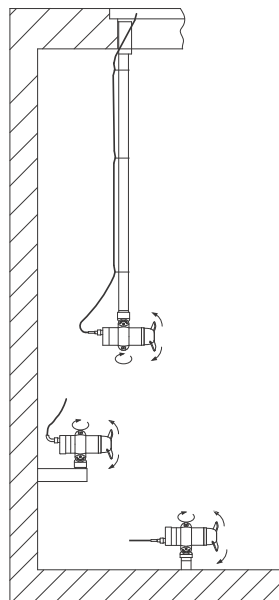

Fig. 3 Suspended mounting, wall mounting and bottom mounting
- mounting bracket and tube for suspended mounting, fig. 3
- mounting bracket for wall mounting, fig. 3
- fixation base for bottom mounting, fig. 3